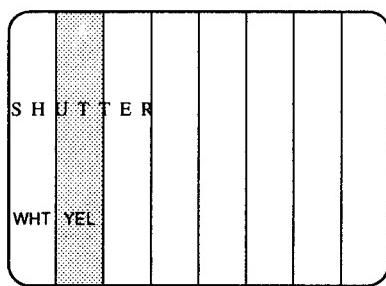

Fig. 5-1-6
- Adjust CT1 so that the left edge of the U character of the SHUTTER word becomes a divider line of the White and Yellow of the Colour Bar as shown in Fig. 5-1-6.